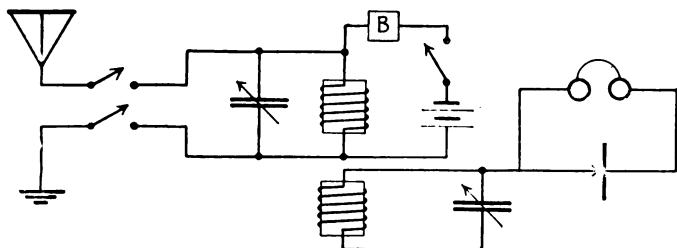

Fig. 5.—Diagram of Apparatus for Measuring Antenna Capacity.
A. Measurement of antenna capacity. Fig. 5 gives the circuit used to measure the capacity of an antenna. This method requires only a calibrated condenser.